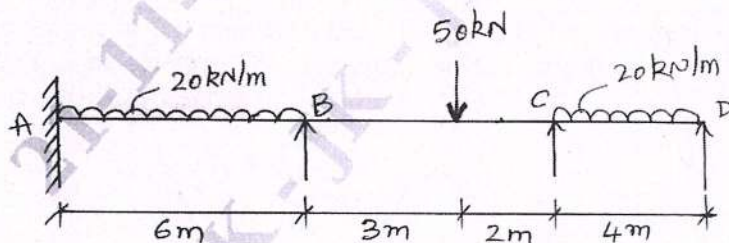

Fig.Q.9
- Q.9 Analyze the continuous beam shown in Fig.Q.9 by moment distribution method. The support B sinks by 10mm. Take  $E = 2 \times 10^5 \text{ N/mm}^2$  and  $I = 120 \times 10^6 \text{ m}^4$ .